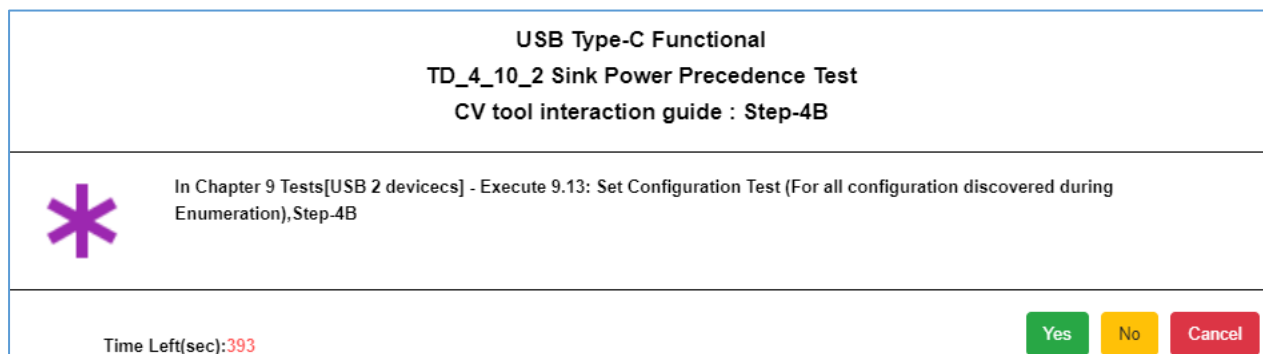

FIGURE 7.17: USER PROMPT TO EXECUTE CTS “TD 9.13 SET CONFIGURATION TEST” IN CV TOOL
6. The following pop-up message (Figure 7.17 below) will then appear to ask the user to execute CTS “TD 9.13 Set Configuration Test” in the CV Tool for all configuration found during the enumeration test run.